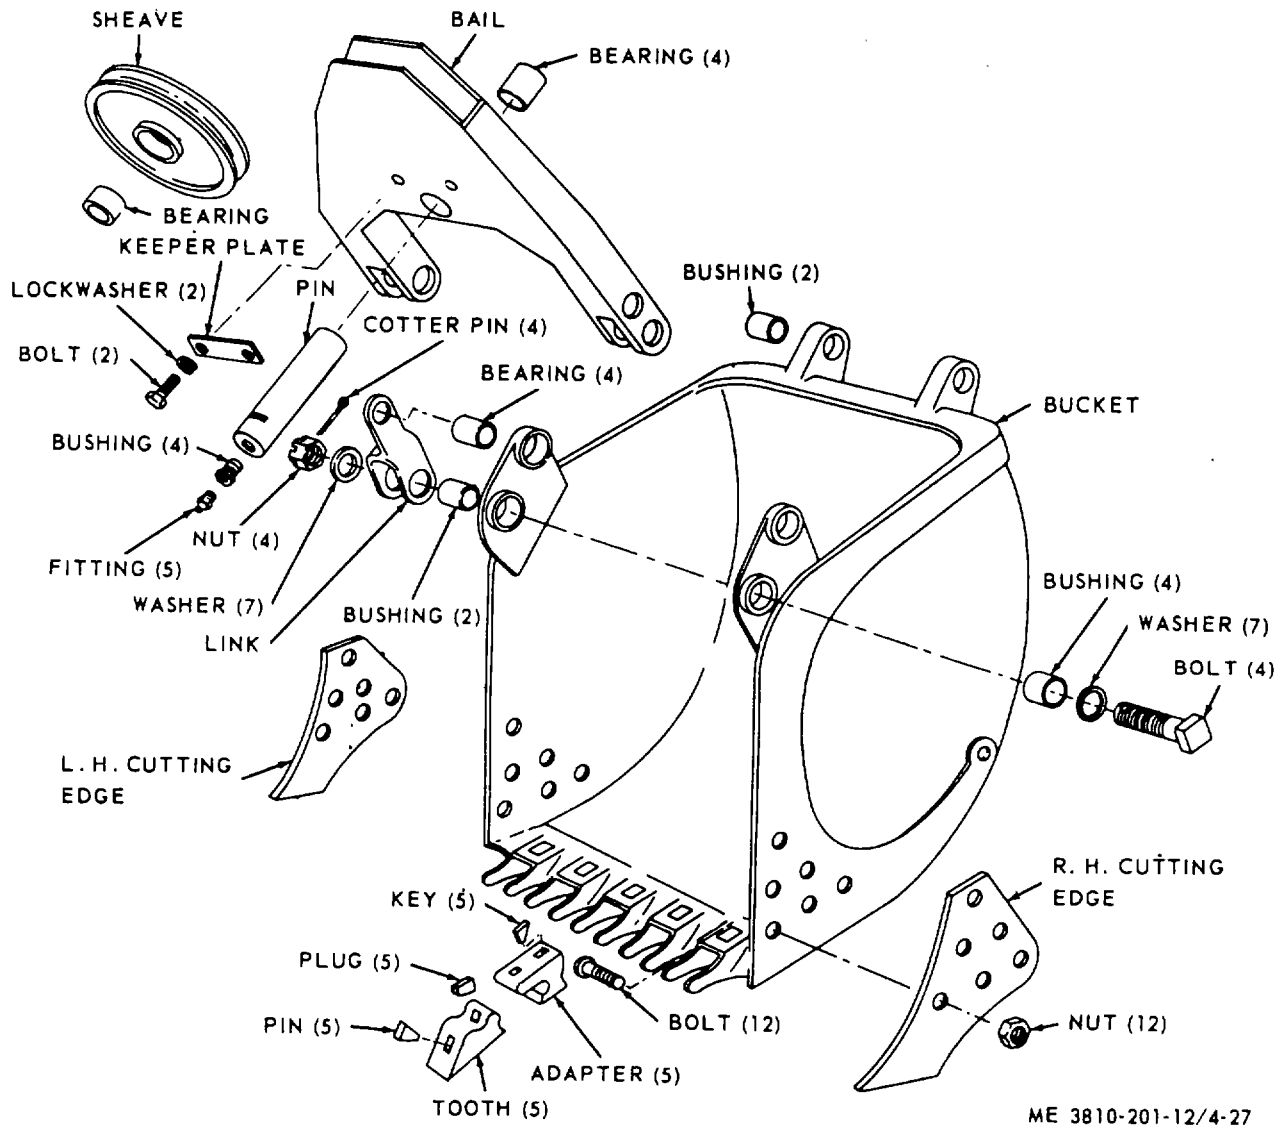

Figure 4-27. Backhoe bucket, disassembly and reassembly.
- (2) Remove bail and link by removing cotter pins, nuts, washers, and bolts (fig. 4-27).
- (1) Disassemble bail by removing two bolts, lockwashers, and keeper plastic (fig. 4-27), remove pin, then remove sheave from bail.
- (2) Remove 12 nuts and bolts, and remove left and right hand cutting edges.
- (3) Drive pins and plugs out of five teeth then remove teeth from adapter.
- (4) Drive key out of five adapters, then remove adapters from bucket.
(5) Reassemble by reversing procedure of steps (4) through (1) above.